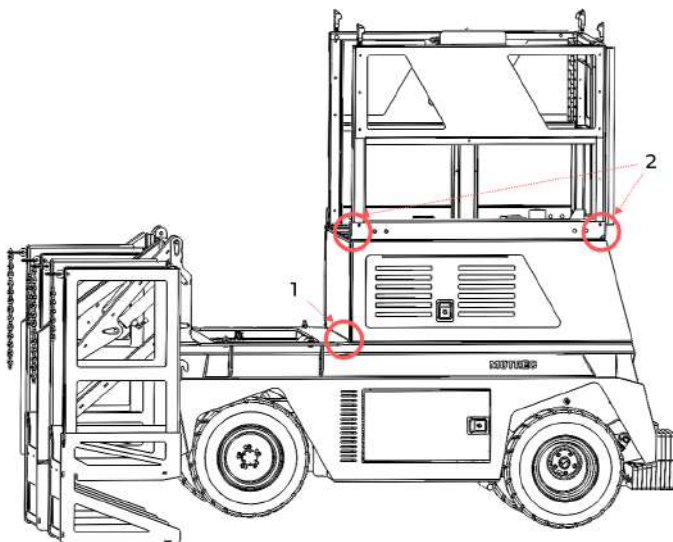

Figure 33. Side Panels And Guardrails.
- Side panels corners (1) (both sides) and guardrails (2). There is a possibility of cracks occurring in the side panels corners as they undergo significant stress (see Figure 33).